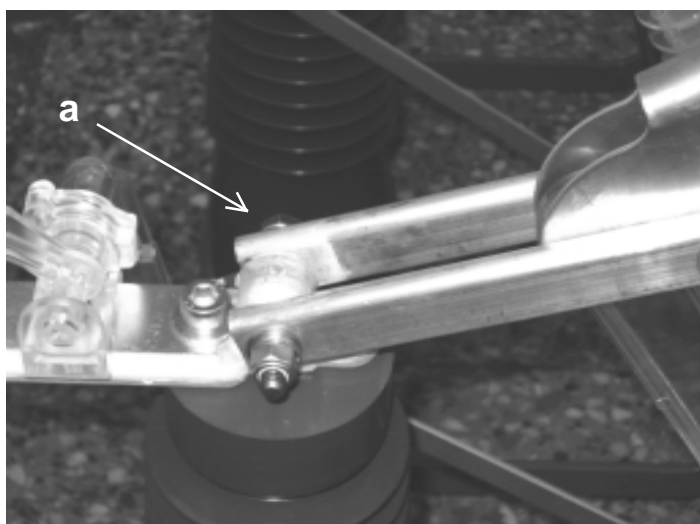

Fig. 22
- The contact screw is detached and the contact knives are removed (fig. 22)